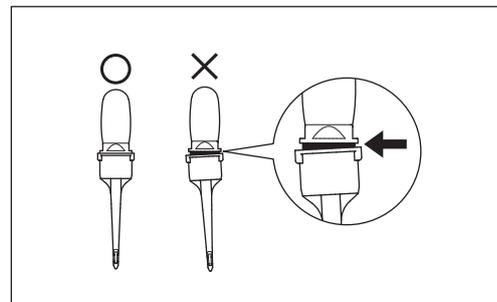

Fig. 29
- Be sure to attach the Nozzle Tip securely and firmly as illustrated (Fig. 29). If the Tip is attached incorrectly, it will fall off and may be accidentally ingested by the patient.